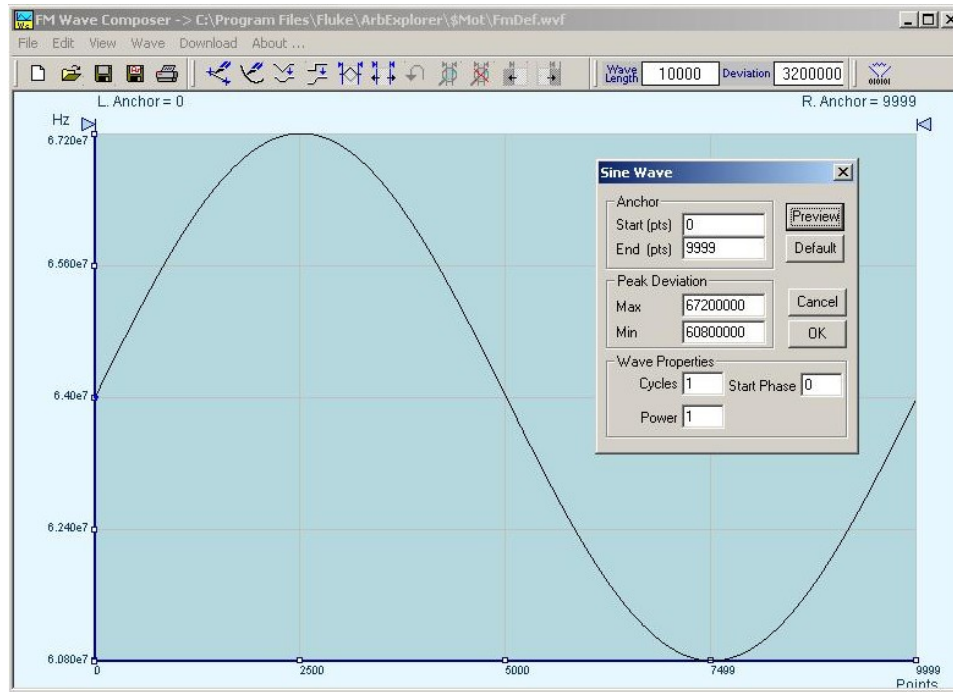

Figure 3-24, Using Tabor Electronics to Generate Arbitrary Modulating Waveforms
4. Invoke Tabor Electronics and press the FM composer. The FM Composer screen is shown in Figure 3-24. Modify the Wavelength field to have 10,000 points and press the Wavelength button. The number of points is derived from the following relationship:
When you select FSK modulation, the parameters, as shown in Figure 3-24 and described in the following paragraphs, will be available for modification:
When you select sweep modulation, the parameters, as shown in Figure 3-24 and described in the following paragraphs, will be available for modification: